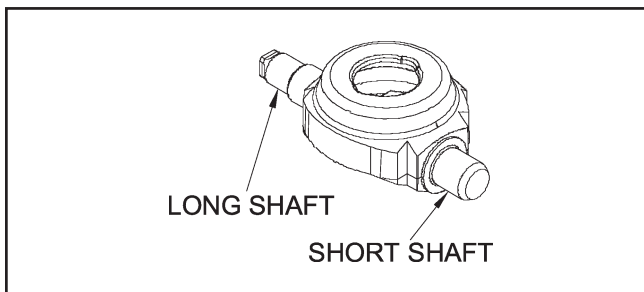

Figure 21.
14. *Care must be taken to prevent the scaring or scratching of the center section sealing face during this step.* Insert the shaft of the swashplate/pump block assembly (Figure 21) into the housing while simultaneously compressing the pistons in the block. NOTE: To assist in the installation of these components, insert the assembly until 3/4 of the pump block is covered by the center section. Then slightly press the shaft end toward the center section while pushing the shaft into its bore.